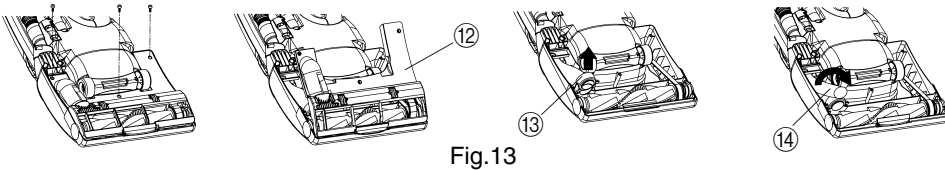

Fig.13
*DUCT HOSE (Fig. 13, 14)
2. Turn the cleaner over. Release the handle to the middle position. Remove the 3 screws from the belt cover ⑫
3. Remove the belt cover, and take off the hose supporter ⑬ to check the duct hose ⑭